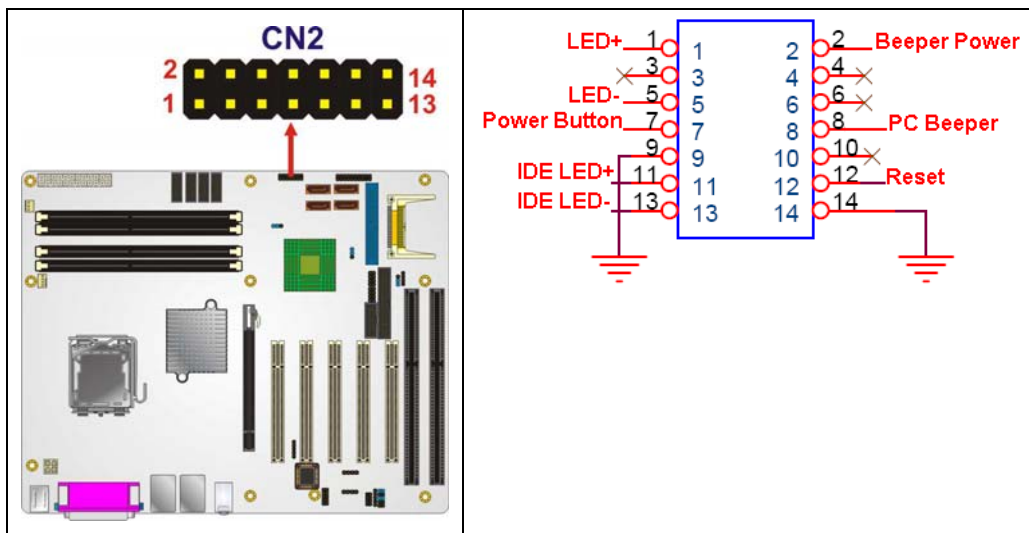

Figure 4-12: Front Panel Connector Pinout Locations (14-pin)
- CN Location:** See Figure 4-12